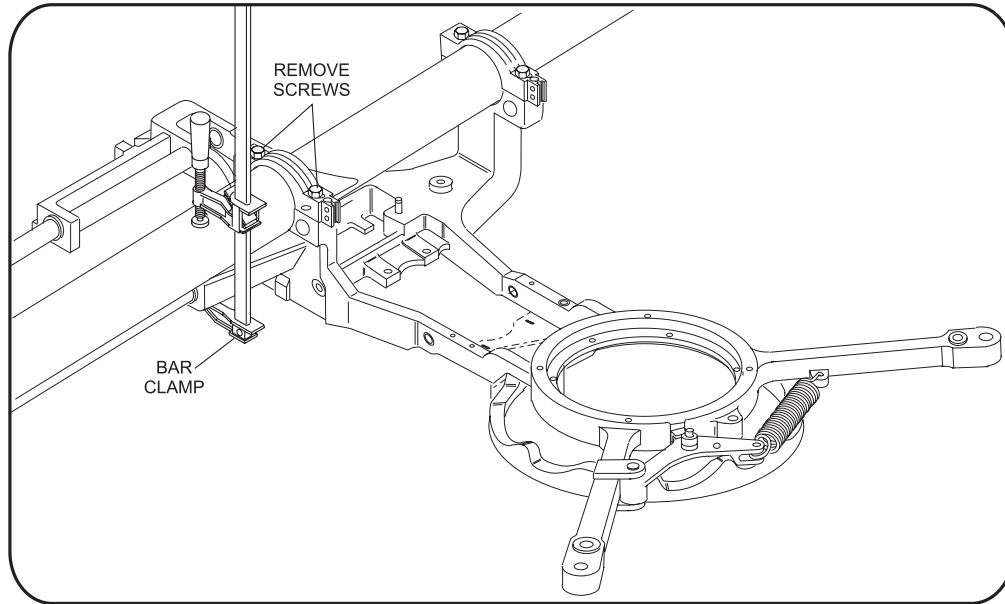

Figure 1
- Using a bar clamp or large nylon tie, clamp the turret frame to the main cross shaft. Refer to *Figure 1*.